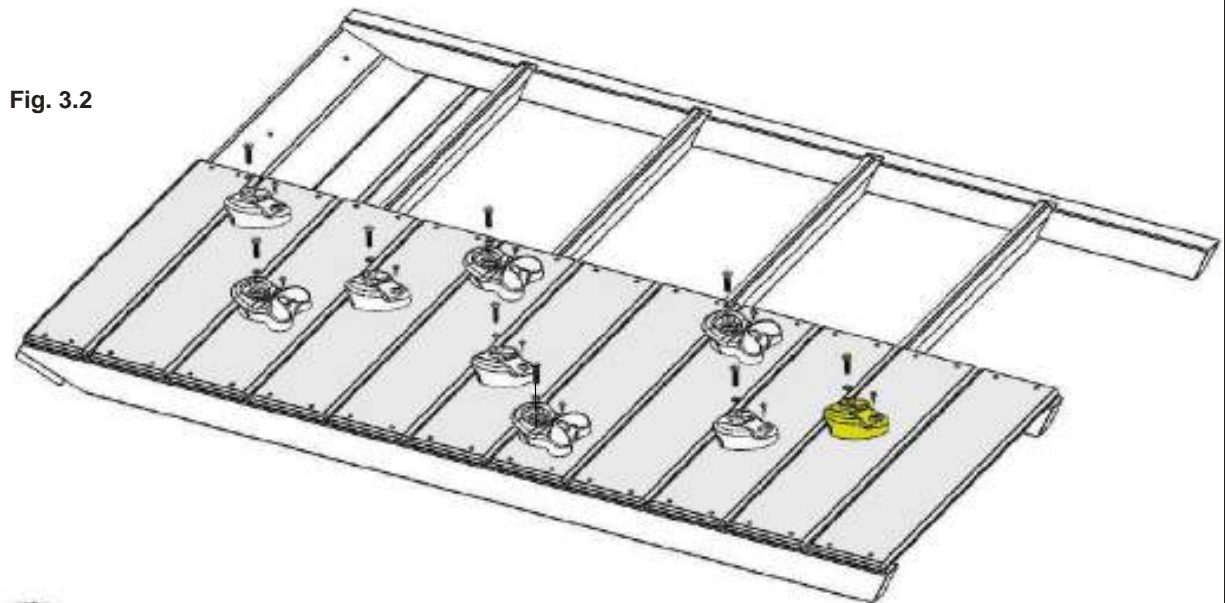

Fig. 3.2
**C:** Alternating colours and shapes, attach 1 rock to each rock board using 1 (PB2) 1/4 x 1-1/4" Pan Bolt (with lock washer, flat washer and barrel nut) and 1 (S10) #8 x 1" Pan Screw per rock. (fig. 3.2 and 3.3)
The Pan Screw is placed in the hole beneath the Pan Bolt. (fig. 3.2 and 3.3)